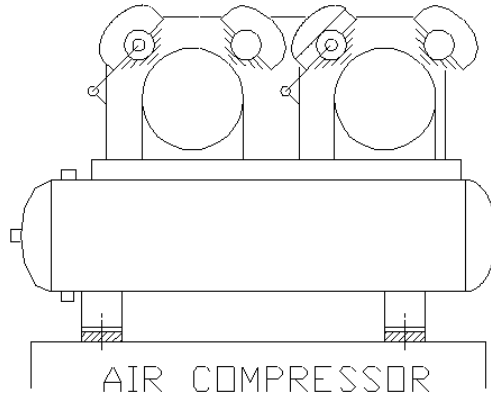

Figure 7-2: The completed air compressor.
13. Save your drawing. It should look like Figure 7-2.